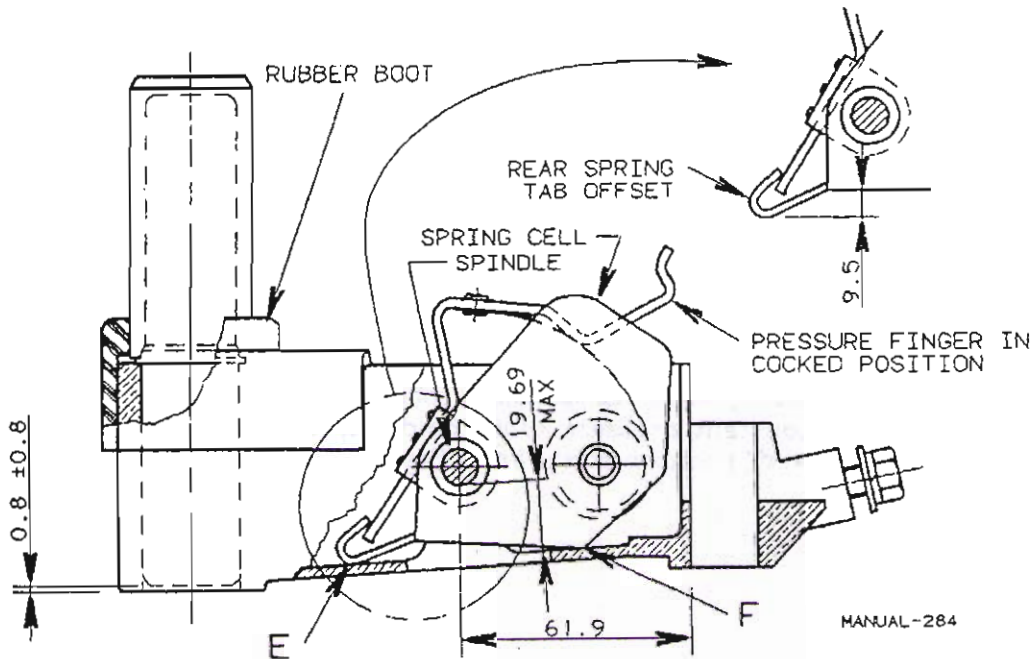

Fig. 7 - Constant Pressure Brush Holder
8. Ensure each spring cell is tight in the brush holder. If cells are properly installed, the cells will be held firmly at contact points "E" and "F" of Fig. 7. If required, adjust rear spring tab so that the cells are held firmly at points "E" and "F" when the spindle is driven in place. Points "E" and "F" must have definite contact with holder.